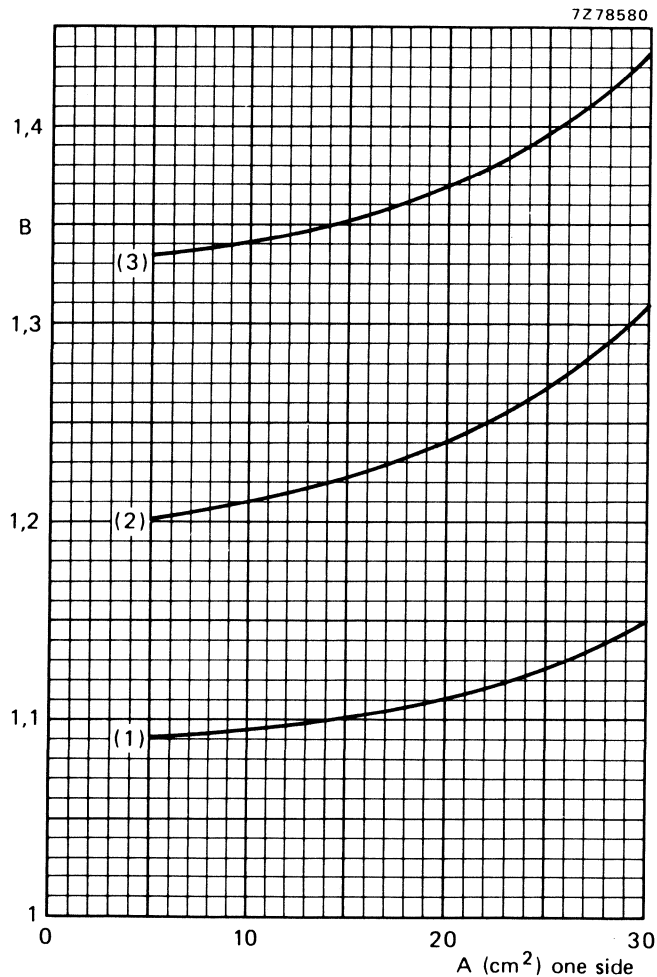
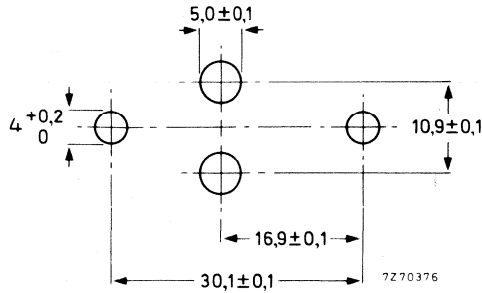

Fig. 1 Multiplication factor (B) as a function of heatsink area (A).
Fig. 3 Hole pattern for direct mounting with nuts.
- Multiply by the factor given in Fig. 1 as a function of the heatsink size A.
The transistors should be mounted with M4 screws, see Figs 1 and 2. Minimum heatsink thickness (for good heat transfer) 1,5 mm. Hole pattern: Fig. 3.
Figs 1 and 2. Direct mounting with nuts.